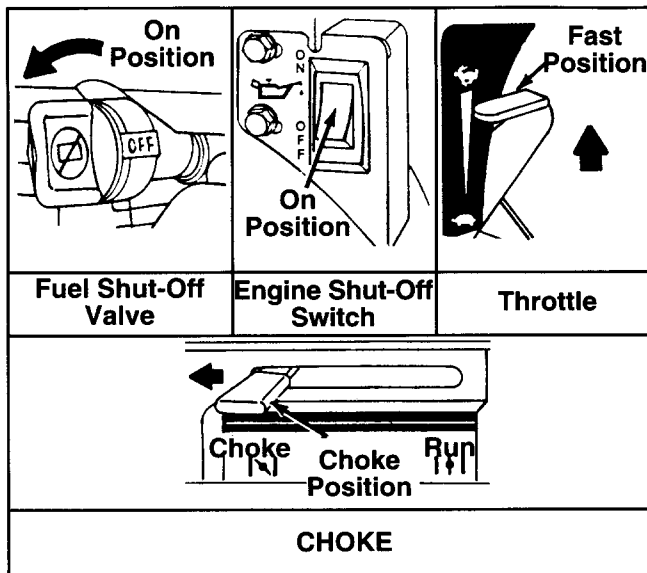

FIGURE 13.
The throttle control lever is located on the engine. It controls the engine speed and stops the engine. See figure 13.
The clutch lever is located on the left handle. See figure 13. Squeezing the clutch lever against the handle engages the wheel and tine drive mechanisms.
2. Turn fuel shut-off to ON position. See figure 13.